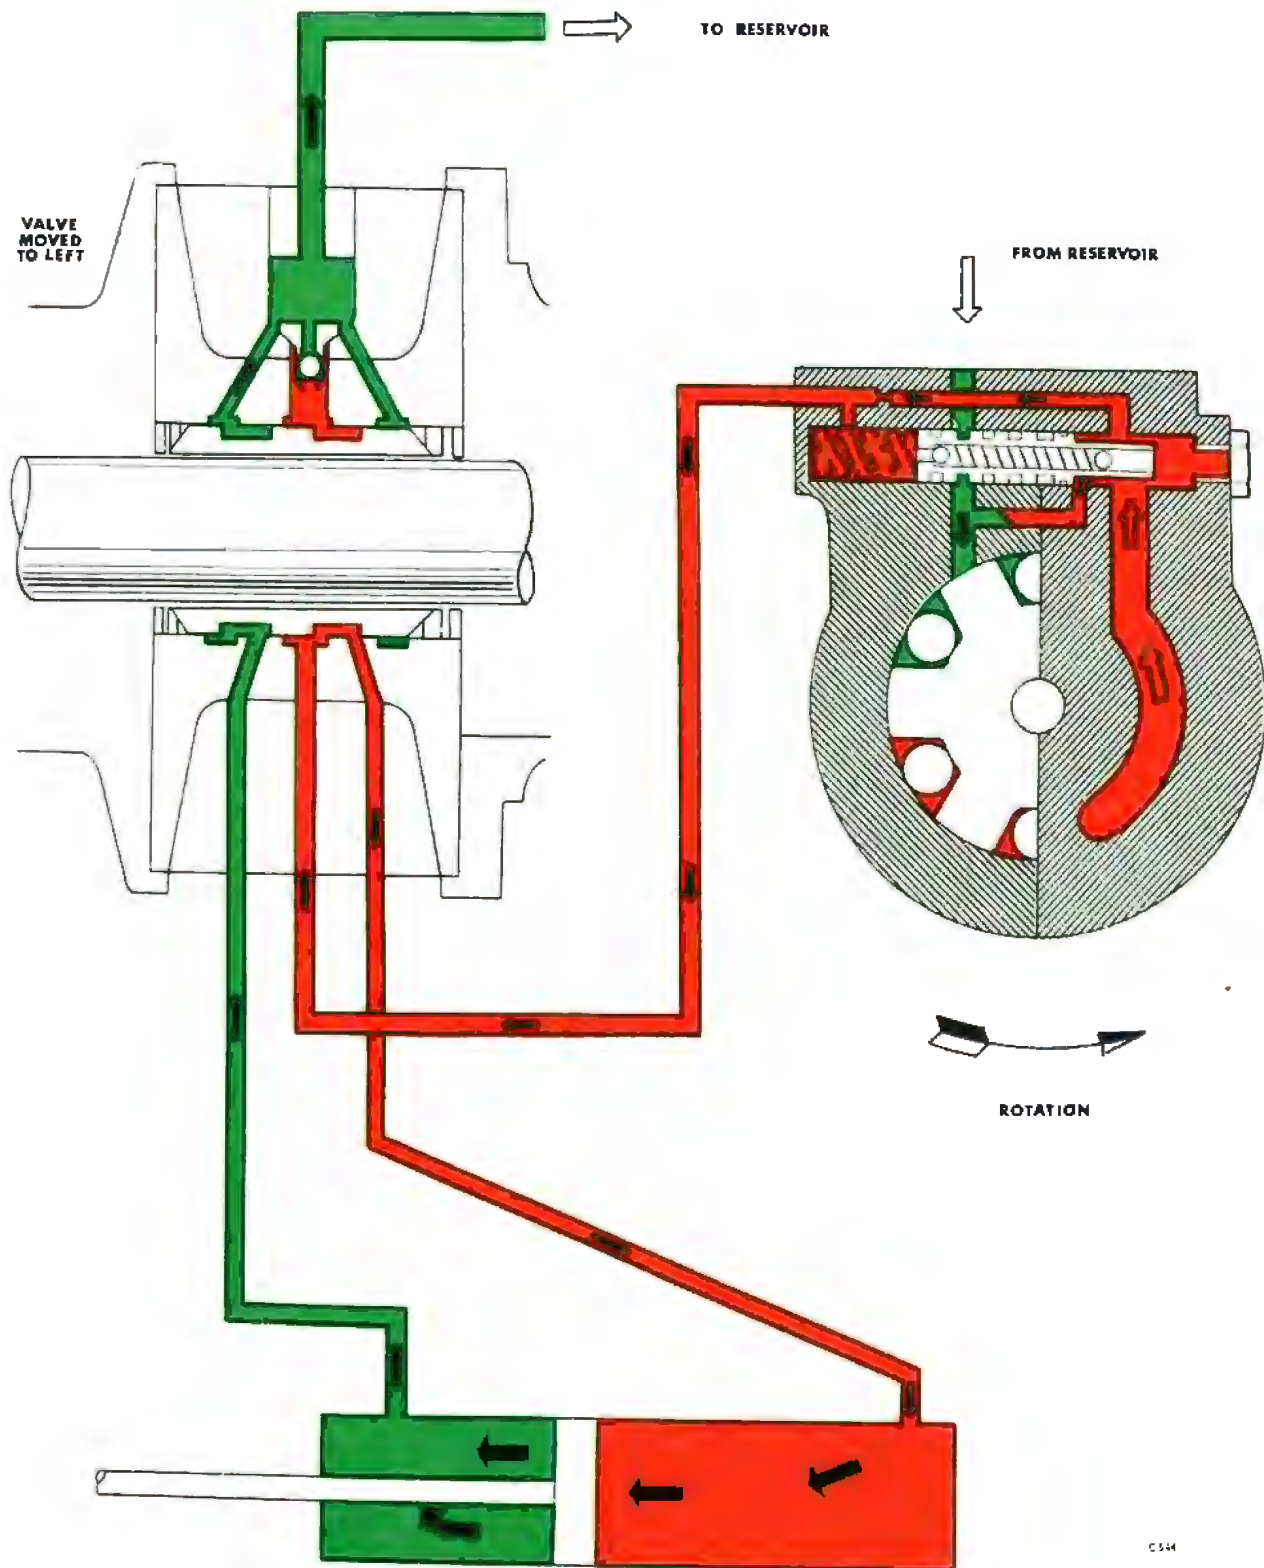

Fig. N2 (S) Circulation diagram—normal turning condition right-hand lock — light load
Figure N2 (S) of this Supplement shows the condition when commencing a normal right-hand turn on the open road. The assistance is automatically regulated by the load applied at the steering wheel rim and the position of the spool valve in the valve housing.